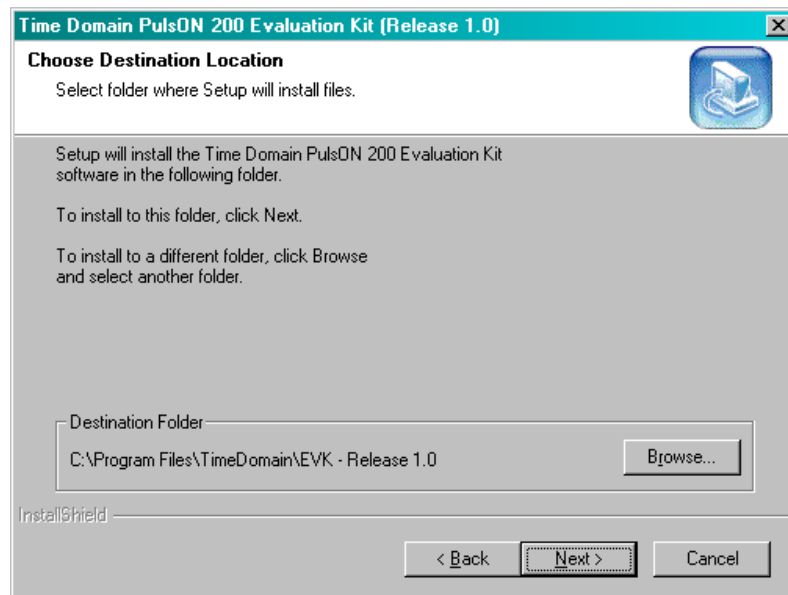

Fig. 3: Screen for designating Program Files location for EVK software.
5. When you reach the screen shown in Fig. 3, you will be given a choice of directories in which the TDC software can be loaded.